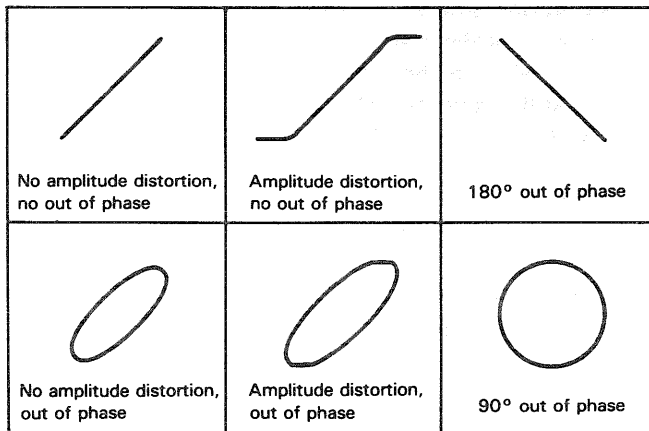

Fig. 36 Typical phase measurement oscilloscope display
7. Some typical results are shown in Fig. 36.